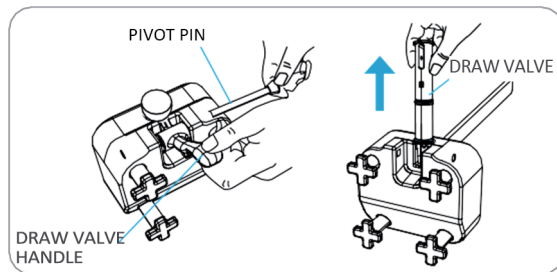

Figure 5-30
- Draw valve handle and pivot pin should be taken out of freezing cylinder door to clean as shown in Figure 5-30.